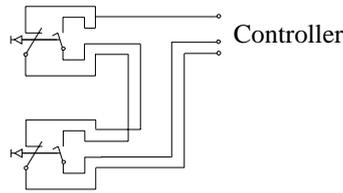

Figure 24 Connections of the switches.
**074** 12-pole screw terminals, Phoenix MSTB 2.5/12-ST-5.08, in the controller. (see Figure 24).